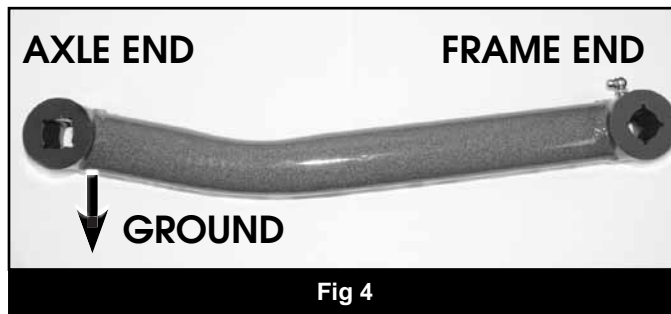

Fig 4
25. Install a supplied 90 degree grease zerk on the frame end of the lower control arm. Align the zerk so that it faces the opposite end of the control arm. (Fig 4)